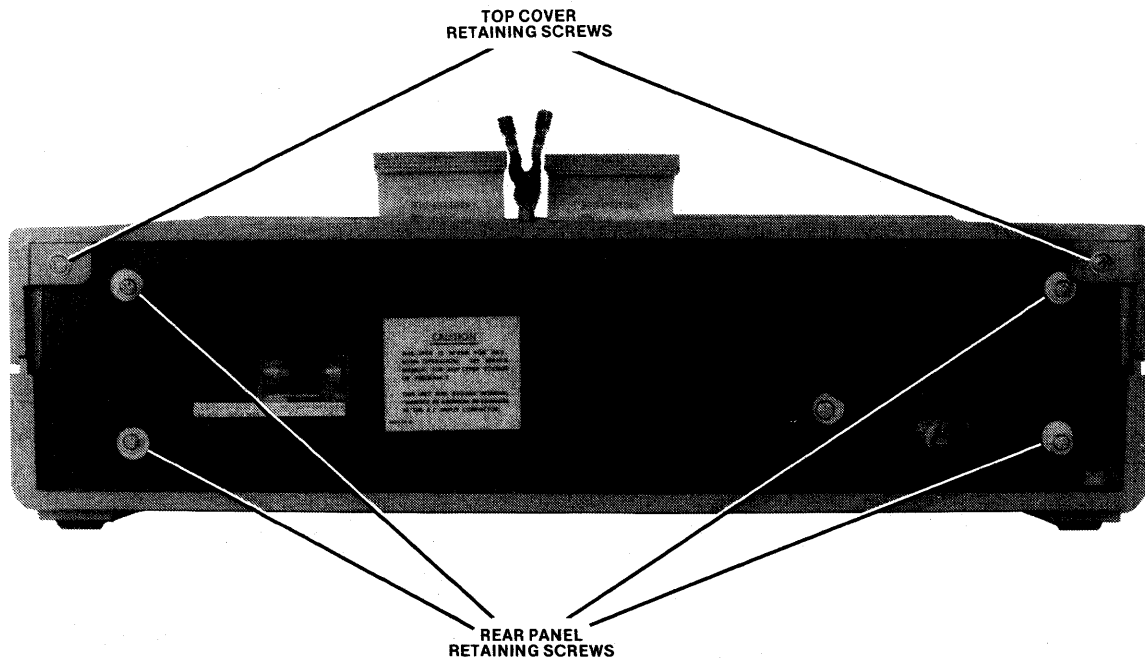

Figure 5-2. Expansion Chassis (Rear View)
- b. Loosen the two expansion chassis top cover retaining screws and remove top cover. (See figure 5-2.)
- c. Remove the four screws securing rear panel to expansion chassis. (See figure 5-2.) Pull edge of rear panel away from chassis to allow connector installation in top and bottom connector holes.
- k. Remove the four screws securing rear panel to expansion chassis. (See figure 5-2.) Pull edge of rear panel away from chassis to allow connector installation in top and bottom connector holes.